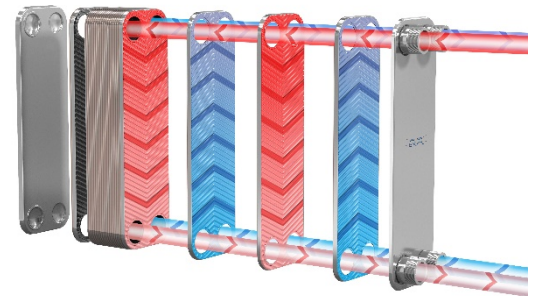

Figure 1 Function of plate heat exchanger. Courtesy of alfalaval.com.
A plate heat exchanger, as shown in Figure 1, is a stack of metal plates. Each plate is separated from the next to create a series of small gaps. The “hot” and “cold” fluids flow in alternating gaps in the stack and exchange heat as they proceed along the length of the exchanger.
5. The inlets (*hot* and *cold*) to each heat exchanger are on the side closest to the rotameters (in the foreground of Figure 1).
6. The outlets (*hot* and *cold*) of each heat exchanger on the side farthest from the rotameter (in the background of Figure 1).